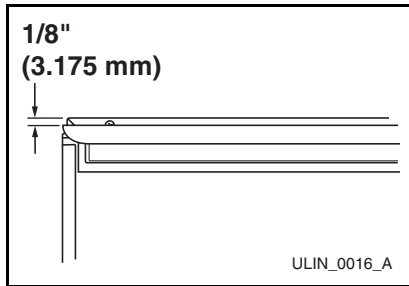

Figure 14
1. Compare the top edge of the door (opposite the hinges) to the top edge of the cabinet (**Figure 14**) and note the type (up or down) of adjustment needed.